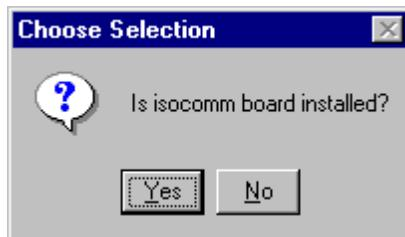

FIGURE 18. Isocomm Dialog
- 3.34 Examine the communication ports on the Vitalbus assembly. At the ‘Is isocomm board installed?’ dialog box (shown in FIGURE 18.), select the ‘Yes’ button if there are four (4) communication ports. Select the ‘No’ button if there is only one (1) communication port.